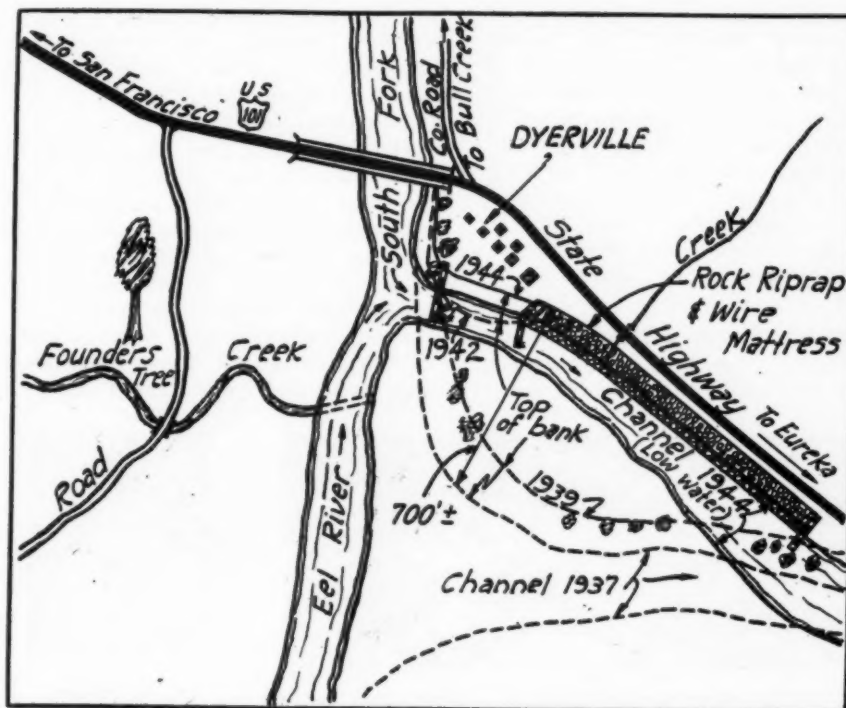

Fig. 1—Why protection was necessary. Successive stages in erosion of delta at confluence of two streams bordering the Redwood Highway
**T**HE huge redwood trees along the scenic Redwood Highway in California state highway district 1 stand for centuries, but not the gravel banks of the Eel River. At the confluence of the Eel and the south fork of the Eel, periodic floods of the last six years have washed away a triangular area some thirty acres in extent until a section of the highway (U.S. 101) was immediately endangered. Fig. 1 shows successive stages of this channel shift, which represents an acceleration of the normal process of loop or curve enlargement familiar to the hydrologist. Whereas in dry summer seasons the channel consists of a wide gravel flat with a trickle of flow, floods carrying as high as 300,000 sec. ft. have occurred, rising 39 ft. above the bed.
nel and wash away portions of the triangular flat at the confluence. By 1942 a serious condition had developed and it was decided to riprap the road fill and build three permeable jetties, designed to throw the channel back toward its old location. Meanwhile, the California Board of Water Resources lent a hand, having a keen interest in confining the channel due to the location on the far bank of the famous Founders Grove of hugh redwoods, including the world's tallest known tree (364 ft.). The Board initiated protection work consisting of a permeable wood pile jetty upstream (Fig. 1) and a draglined pilot channel across the flat, flanked by spoil banks. This work was done in 1944 concurrently with the state highway-department's project, which was altered slightly to dovetail with the Board project.